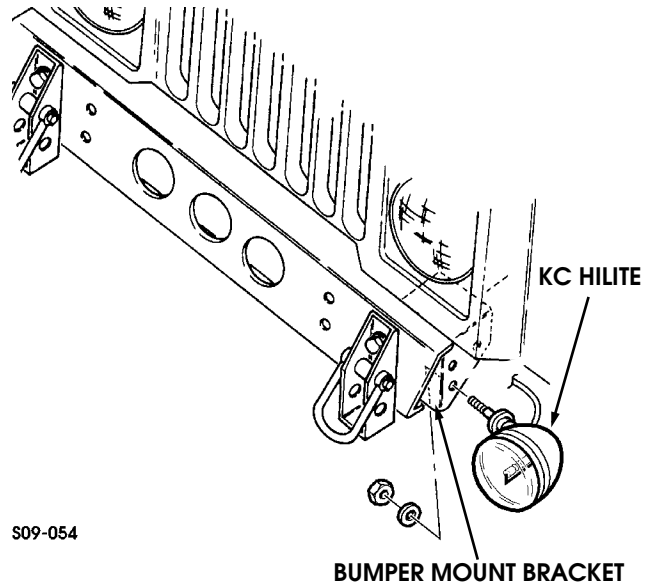

Figure 13-103: Light Mounting Point
1. Begin by mounting your HID lights to the front bumper mount brackets on each side of the vehicle. The lights are labeled “*driver*” and “*passenger*” which will orient the ceramic cover on the bulb downward. Use of the front lower hole in the bumper mount bracket should afford ample clearance to the hood and brush guard (Figure 13-103). Assure the steering stops are adjusted correctly to maintain adequate clearance between the tires and the lights.